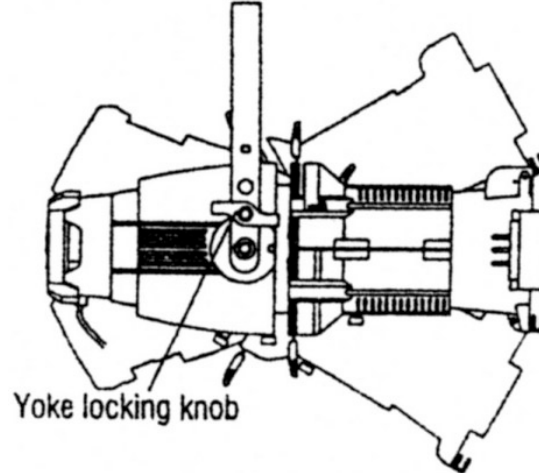

Fig. 15
2. Tilt the fixture to the desired position (Fig. 15).